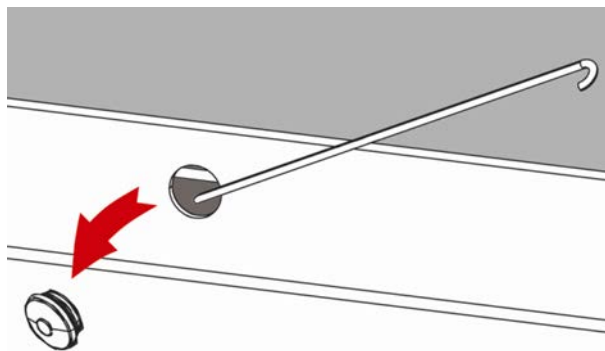

Figure 24: Removing the Plug
- ⇒ Remove the plug. To do this, use the hook provided as an accessory (see Figure 24).